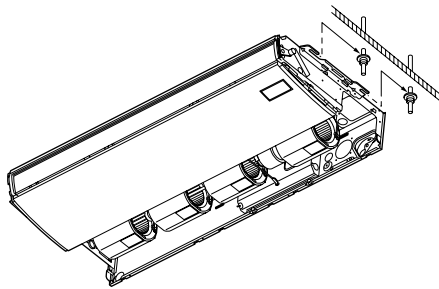

Fig. 3-46
b) Lift the indoor unit, and place it on the washers through the notches, in order to fix it in place. (Fig. 3-46)